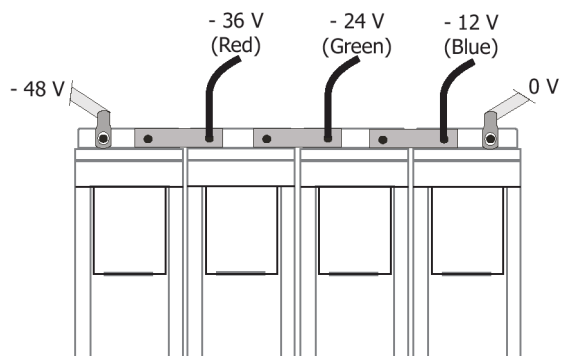

Figure 4-12 4-Block Symmetry Measurement (for illustration only)
4. For 4-block measurement fix the 3 wires (red, green and blue) of the symmetry cable to individual cable lugs. Color coding of the cables must be followed for proper symmetry measurement, see Figure 4-12.